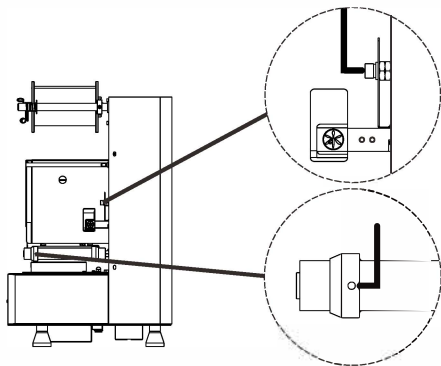

Figure 8
3. Sometimes, the film logo is not placed in the center of the cup (Figure 8).